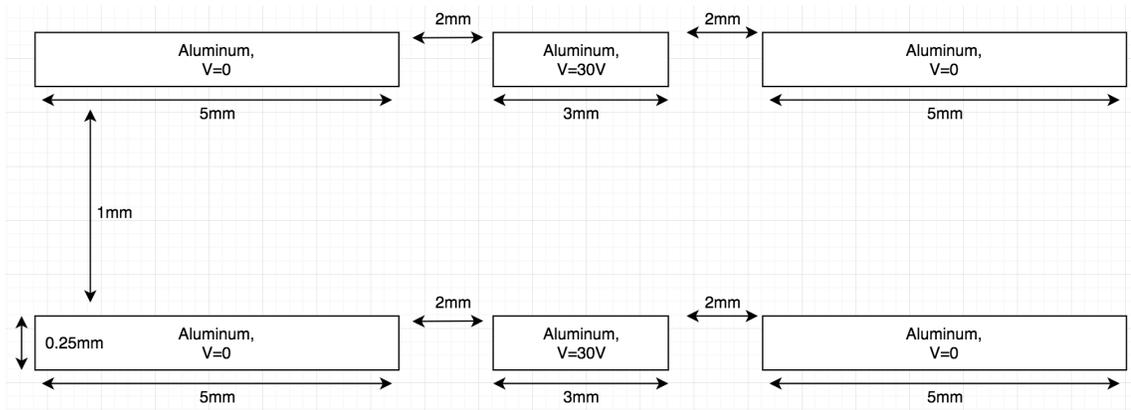

Figure 2: 2D horizontal slice of a tube einzel lens.
- Using ANSYS maxwell 2D, construct the geometry seen in figure 2. Use the materials and excitations as seen.